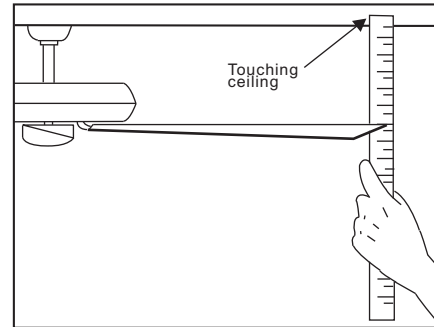

Figure 17
2. Most fan wobble problems are caused when blade levels are unequal. Check this level by selecting a point on the ceiling above the tip of one of the blades. Measure this distance as shown in Figure 17. Rotate the fan until the next blade is positioned for measurement. Repeat for each blade. The distance should be equal within 1/8".